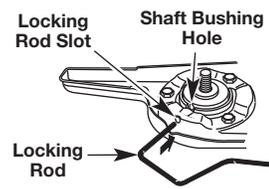

Fig. 8
3. Align the shaft bushing hole with the locking rod slot and insert the locking rod into the bushing hole (Fig. 8).
1. Align the shaft bushing hole with the locking rod slot and insert the locking rod into the bushing hole (Fig. 8).